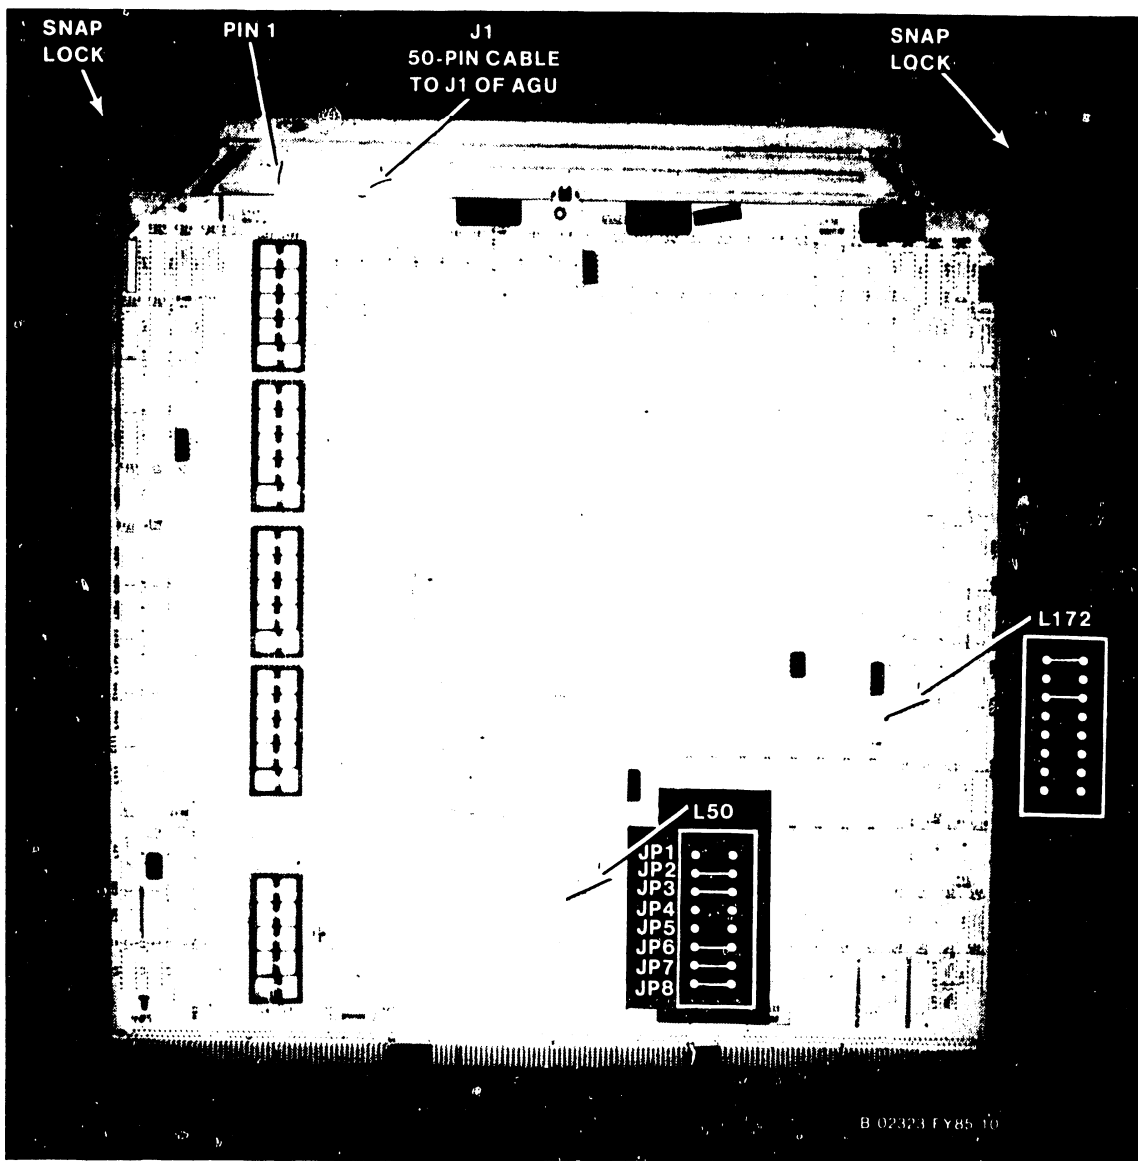

Figure 7-10. 210-9838/9839/9931 Central Processing Unit
2. Before removing the CPU, figure 7-10, from backplane slot #2 disconnect the 50-pin cable from J1.
4. After checking the CPU Clock jumpers at L50 and SPB (Support Packet Bus) Target ID jumpers at L172 (figure 7-10), install the new CPU.